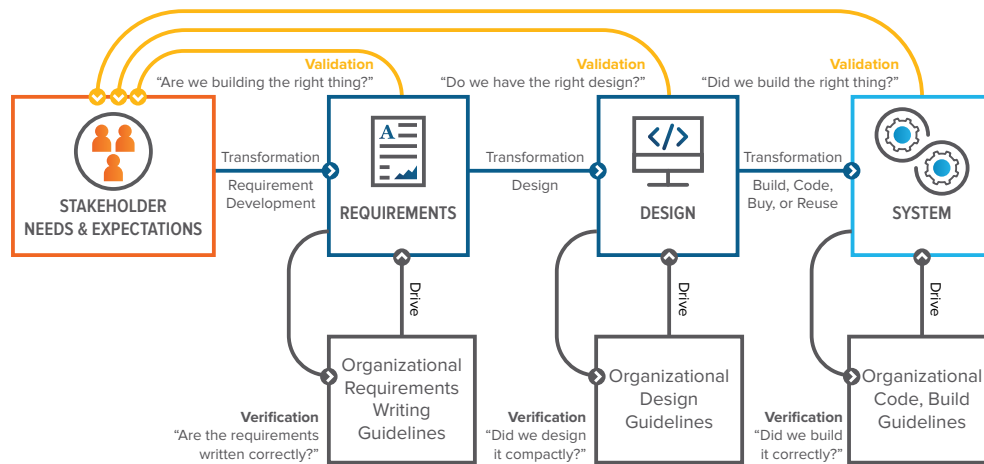

Figure 3: Verification and validation are the processes of confirming that artifacts generated during the transformation processes are acceptable.
- System verification or system validation (as shown in Figure 3)
As shown in Figure 3, a requirement set results from a formal transformation of stakeholder needs and expectations. Correspondingly, design is a result of a formal transformation of the requirement set into an agreed-upon design, and a system is a formal transformation of that design into a system.